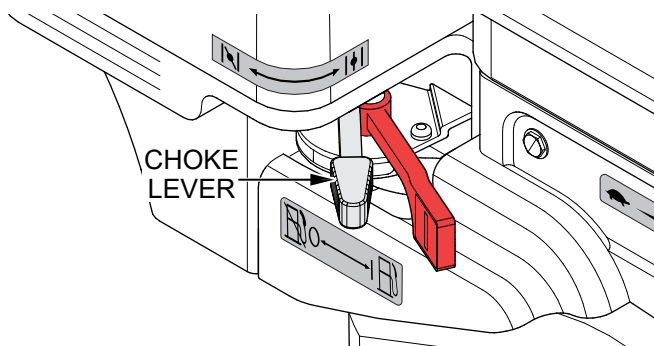

Figure 11. Choke Lever (Open)
4. If starting a warm engine, place the **engine choke lever** in the **OPEN** position (Figure 11).
6. If the engine has started, slowly return the choke lever to the **OPEN** position (Figure 11) as the engine warms. If the engine has not started, repeat steps 1–5.